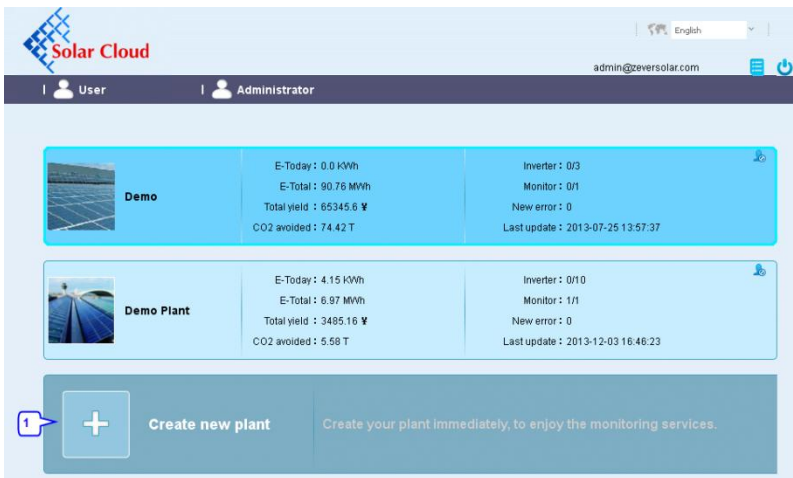

Fig. 8-2: Setting up a new PV plant
Step2: Input your user name and password in the area marked with a “1” in Fig. 8-1 to login to Solarcloud. After you login successfully, you will enter the page with a PV plant list as shown in Fig. 8-2.
Step3: Click Position 1 in Fig. 8-2 to enter the PV plant establishing page as shown in Fig. 8-3. Follow the prompts on the page to establish a PV plant.